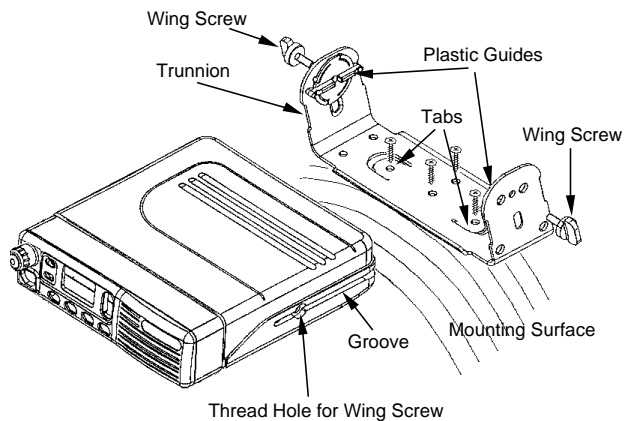
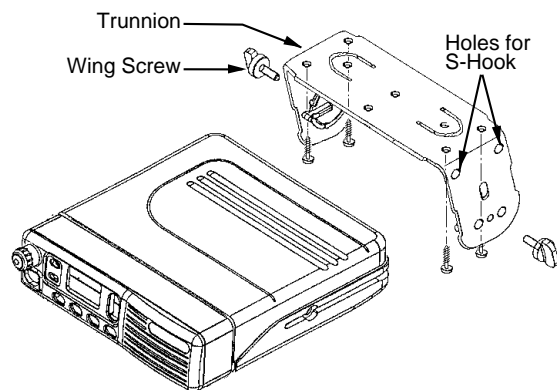

Figure 11 Low and Mid Power Radios Trunnion Mount. Transmission Hump Mounting (Mid Power Radio not shown)
Figure 12 Low and Mid Power Radios Trunnion Mount. Below Dash Mounting (Mid Power Radio not shown)
1. Select the location to mount your radio either on the Transmission Hump (See Figure 11) or Under the Dash (See Figure 12). By mounting the trunnion on the transmission hump take care the transmission housing is not affected.
4. Secure the trunnion mounting bracket with the four screws provided (See Figure 11).
5. Ensure that the plastic guides are aligned (horizontal) to the grooves of the trunnion. Slide the radio into the grooves until it snaps into place (See Figure 11). Secure the radio with the two wing screws provided.
11. Attach the S-Hook and crimp (on microphone cable) to the hole on the radio trunnion (See Figure 12).